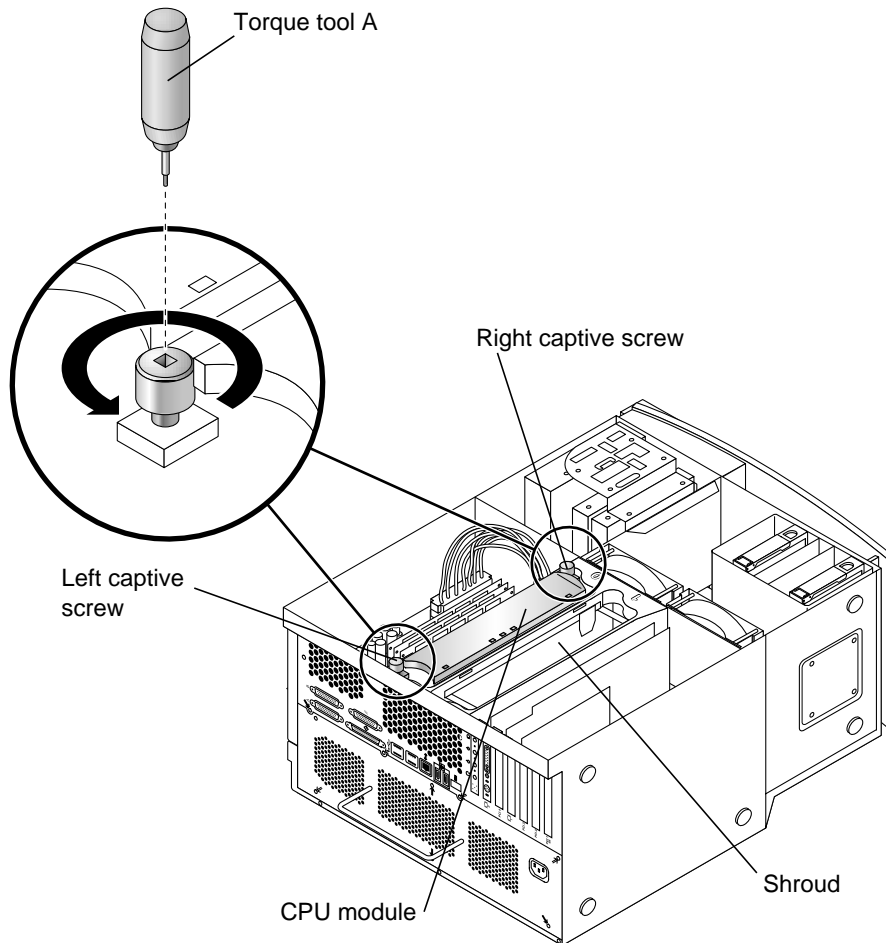

FIGURE 8 Using Torque Tool A to remove the CPU Module
- a. Alternately rotate the left and right captive screws one turn counterclockwise until the screws are free of the threaded inserts (see FIGURE 8).